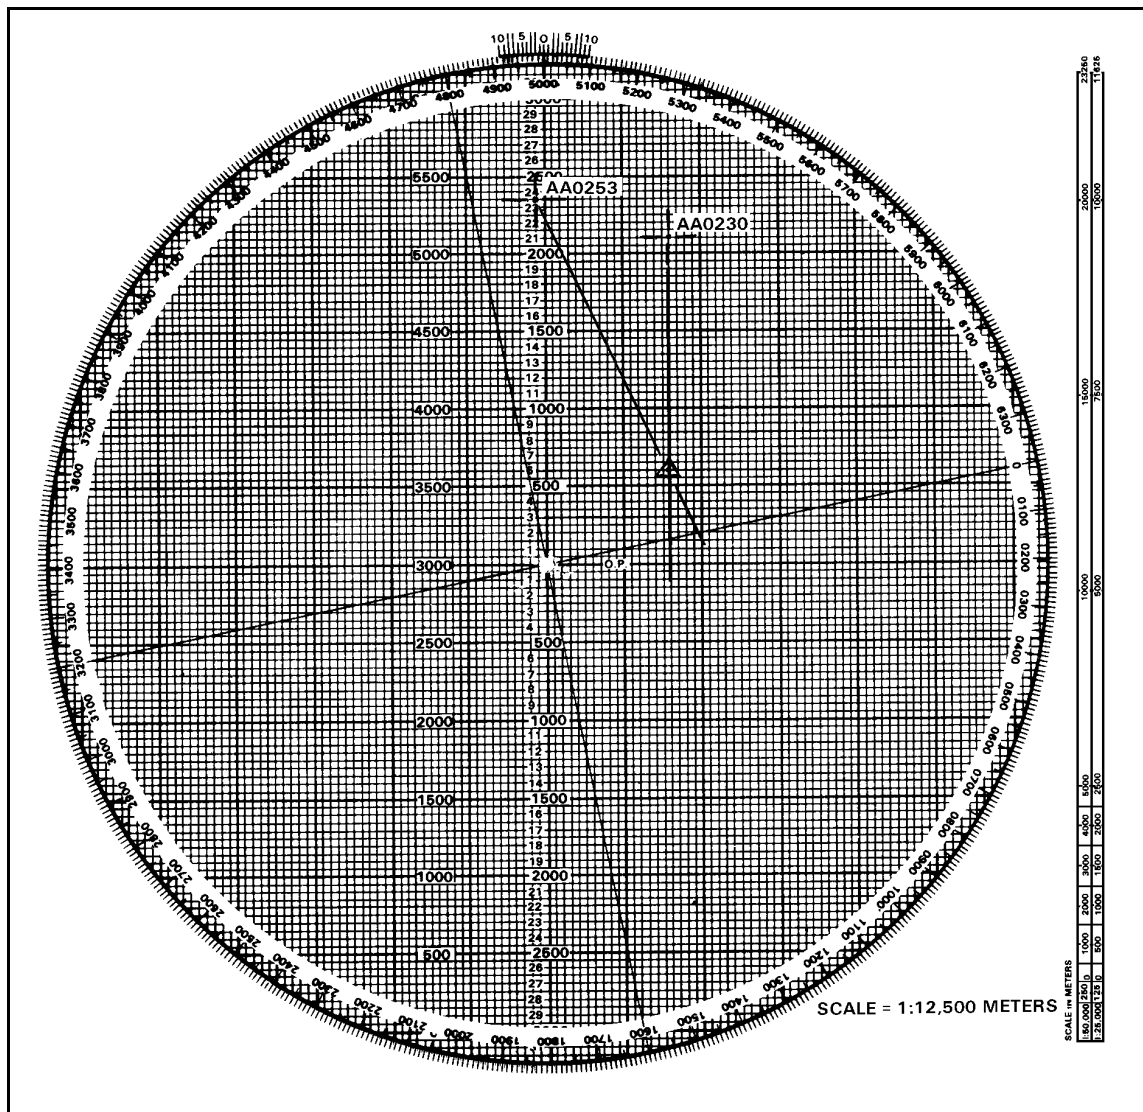

Figure 12-23. Resection.
- a. **Resection** (Figure 12-23). Plot two known points on the plotting board. Then index the azimuths the FO sends from these two points, and draw lines from the known points toward the bottom of the board. The intersection of these lines is the FO's location.